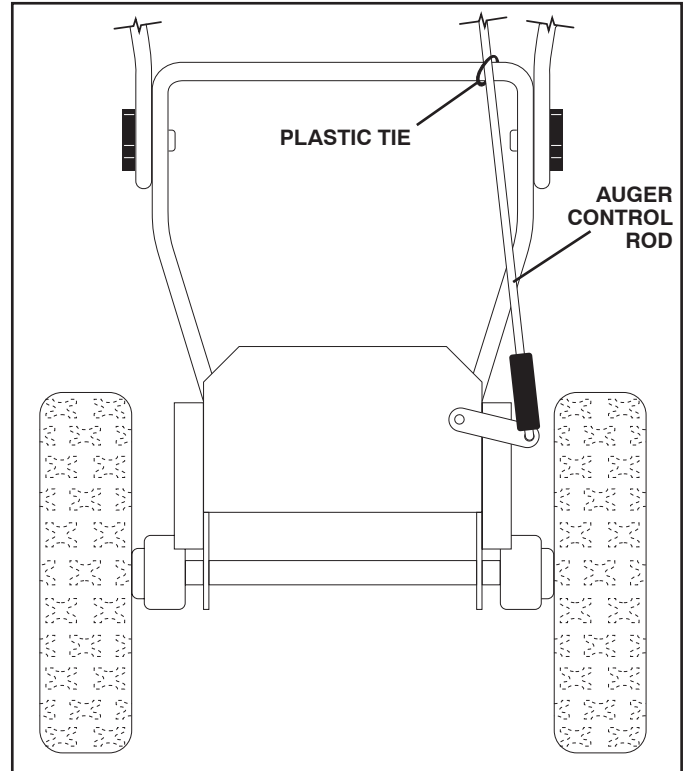

FIG. 5
## INSTALL AUGER CONTROL ROD (See Figs. 5 and 6)
1. Remove plastic tie securing auger control rod to lower handle. (See Fig. 5).